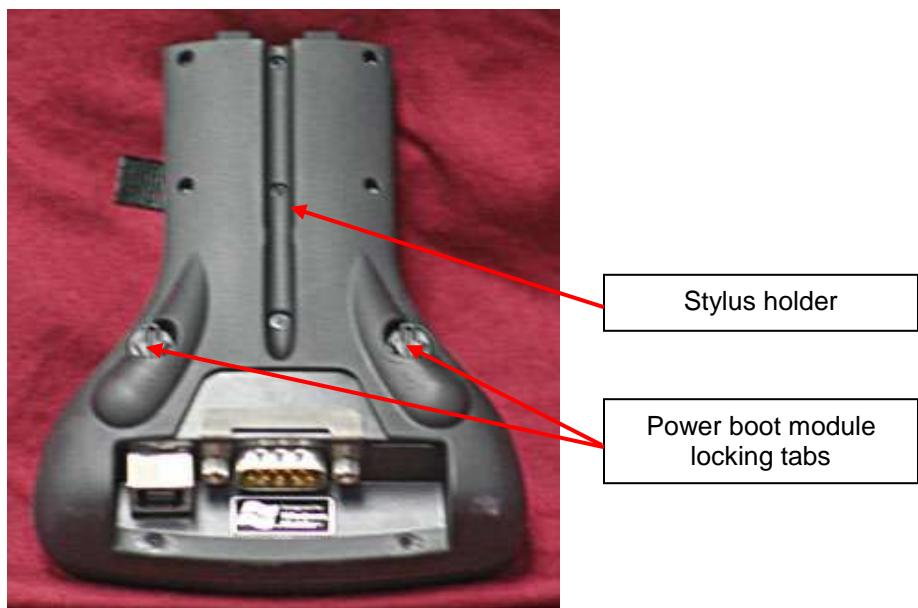

Figure 11: PDA AA power boot module (back).
- Your Recon-400 is supplied with a screen stylus that has a screwdriver tool opposite the stylus end. This tool is used to lock and unlock the power boot modules and the protective cap for the WAAS GPS card and to secure the locks on the removable battery pack. The modules can be secured by returning the locking tabs to the locked position. The location of the locking tabs is illustrated in Figure 11.
- The AA power boot module accepts two (2) AA batteries. Under normal operating conditions and with the appropriate batteries, the AA power boot module will operate for approximately 2-3 hours. When using the WAAS GPS system, operating time drops to 1.5 hours.